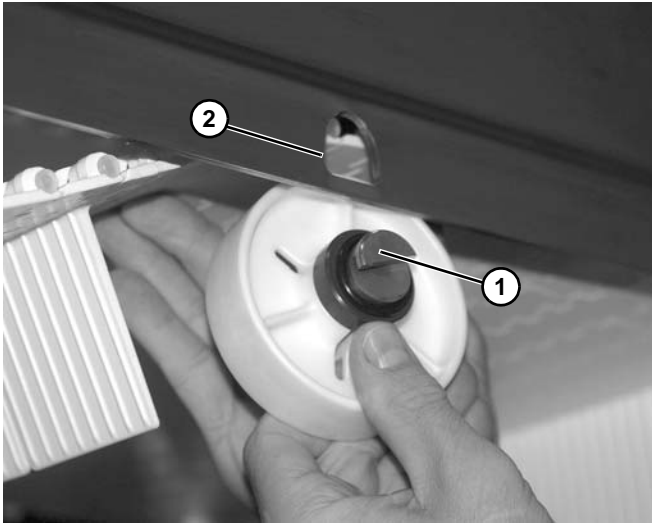

Figure 33
1. Insert the notched end of the return shaft (Figure 33, item 1) through the small hole (Figure 33, item 2) in the inside of the conveyor frame.